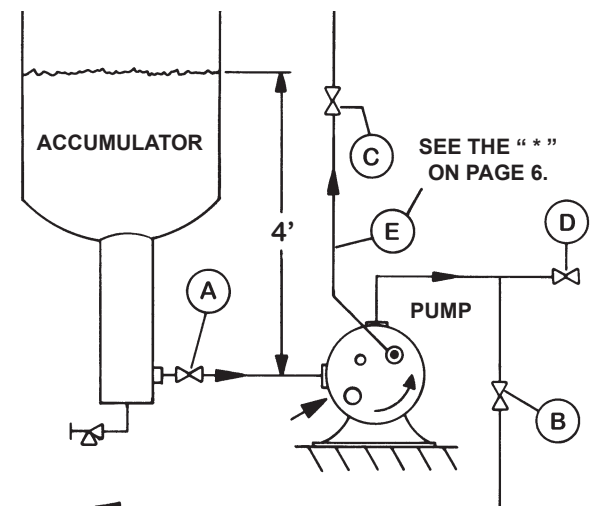

FIGURE 4
2. Close the inlet (suction) side shutoff valve. **A** in figure 4.
3. Close the discharge side shutoff valve. **B** in figure 4.
- Close all other shut off valves in lines connected to the pump. Typical shut off valves include **valve C in line E\* in figure 4** from the pump mounted return-to-tank type relief valve to the accumulator or the valve from an in line mounted safety relief valve to the accumulator or the valve in a pressurizing line from the high pressure side of the system to the pump double seal oil reservoir, **line 2 in figure 5**.
\* The segment of line (**E in figure 4**) between the return to tank pressure relief valve and the shutoff valve, C, should include a pressure relief valve vented to a safe area.
For systems with vent (purge or bleed) valves (e.g. **D figure 4**) go to step 6; for systems without a vent valve, go to step 7.
- A hose should be connected to any vent valve (e.g. **D in figure 4**) in the blocked off portion of the system. The open end of the hose should be placed under water in a tank containing at least 10 times as much water as there is ammonia in the blocked off portion of the system or the end of the hose should lead to a safe, well ventilated area. After the hose has been attached and the open end properly located under water, then open the vent valve. Check the open end of the hose to make sure the ammonia is venting. After ammonia has stopped venting, continue with step 8.
- Carefully loosen any unions or tubing fittings in any other lines to the pump that have been blocked off by closing the shutoff valves so that venting from these segments of the system can be accomplished. Typical of such lines would be that from the pump mounted return-to-tank relief valve to the accumulator, **E\* in figure 4**, or a line from the high pressure side of the system to the double seal oil reservoir, **line 2 in figure 5**.